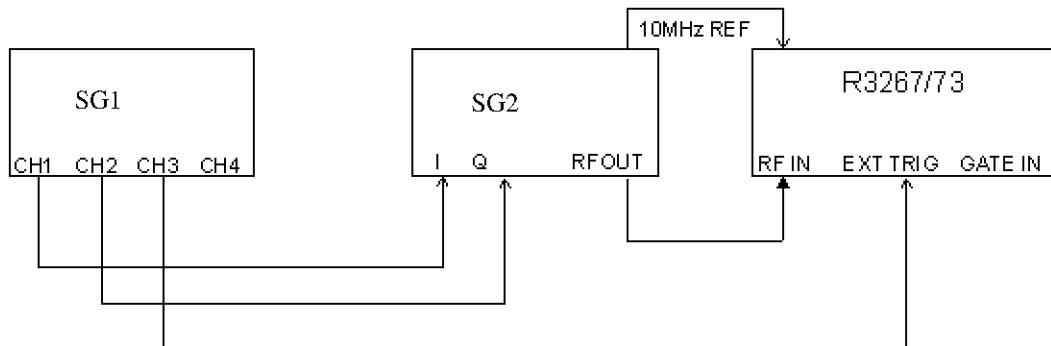

Figure 6-3 Setup of BTS Measurement Test
1. Connect equipment is shown as Figure 6-3.